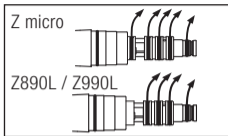

Fig. 37
- 2 Gently remove each O-ring by hand (Fig. 37).